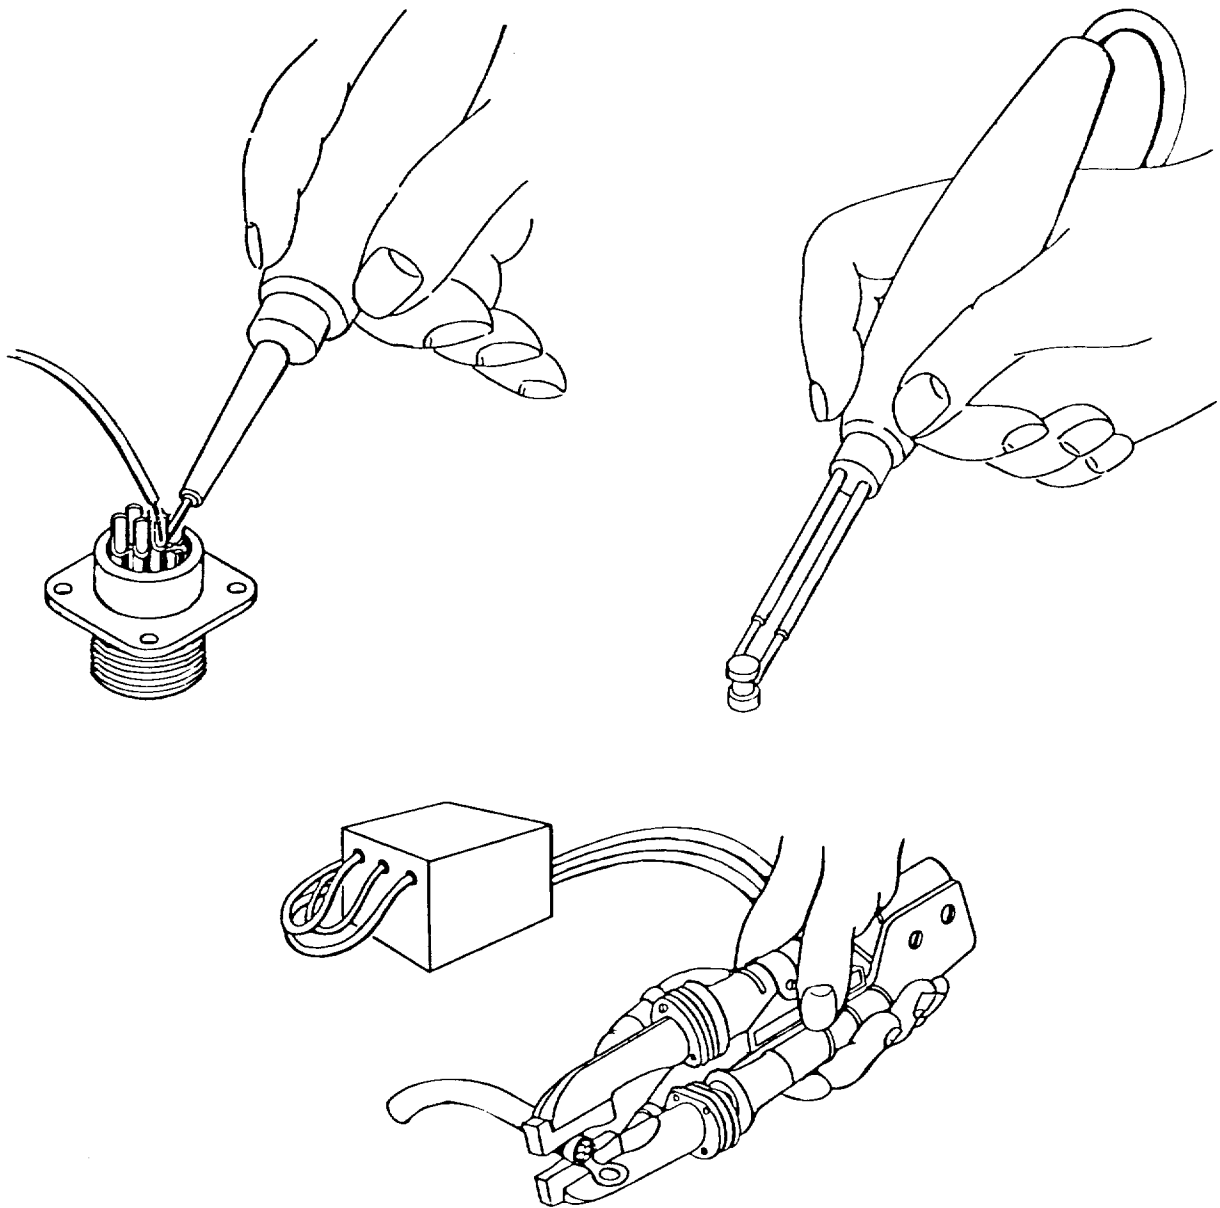

Figure 2. Resistance Soldering
30. **Resistance Soldering.** Resistance soldering is utilized in areas of large volume and when heat is needed only at the point of contact. A low voltage transformer is used and the metal to be soldered is heated by resistance by this low voltage. A carbon pencil is used in another type of resistance soldering as one electrode and is desired for use in congested areas and heat restricted areas (Figure 2).